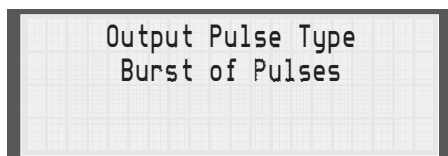

Fig. 2.25
1. Press the Pulse Type key on the front of the LR-24. Use the Arrow keys to select Burst of Pulses for the new pulse type. The display will look like **Figure 2.25**.